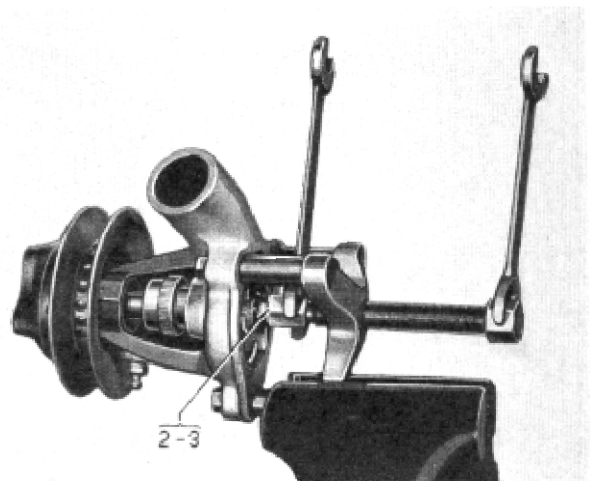

Figure 3
(1) After the water pump is removed from the engine, attach the fixture to the water pump with the three cap screws. Fig. 3.
(3) Turn cutter with wrench (Fig. 3) while feeding with screw until swaged flange is cut off shaft. Remove cutter and center.